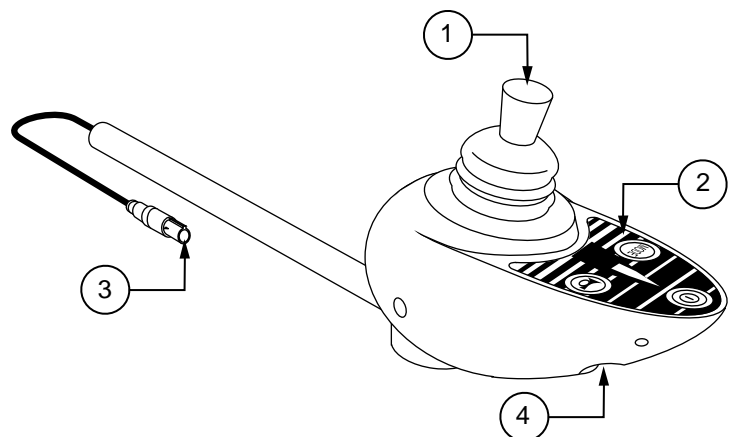

Figure 20. Remote Plus Master Remote
3. Plug the off-board charger into the off-board charger socket. See figures 20 and 22.
The Remote Plus master remote consists of the following (see figure 20):
You may use an off-board charger to charge the power chair batteries through the 3-pin socket located on the front of the controller. See figure 20. The socket may also be used for reprogramming the controller by using a Penny & Giles Programmer, should this be necessary. If you use an off-board charger, the charger current should not exceed 13 amps. Contact your authorized Pride provider for more information.
The controller communications cable provides the joystick module with a connection to the power module. See figure 20.